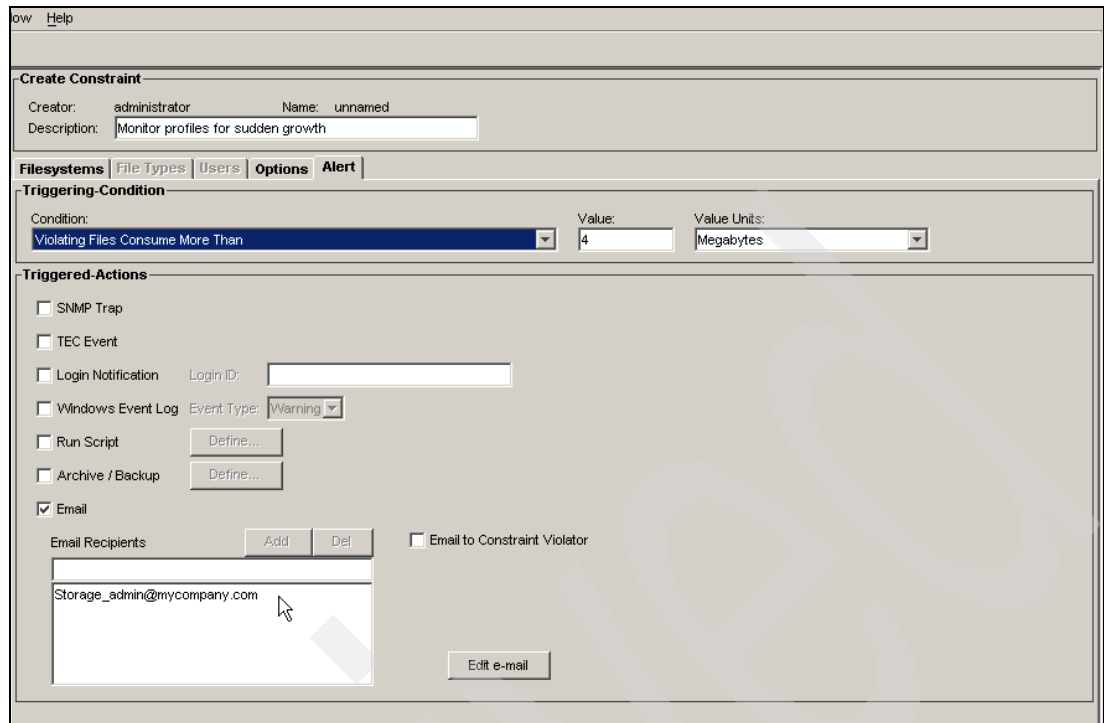

Figure 2-42 Define constraint trigger and alerting
5. Click the **Alert** tab seen in Figure 2-42 on page 45 and add an **Email** recipient to receive the alerts.